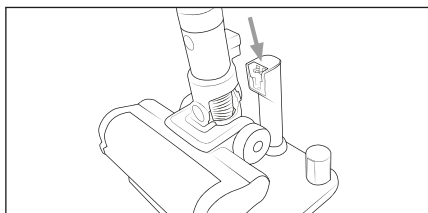

Fig. 6
- ▶ The appliance is equipped with a temperature monitor to protect the battery ①. At high ambient temperatures, the charging process may be interrupted or the appliance may switch off automatically in rare cases:
- The battery indicator ⑳ flashes at one second intervals during charging. Charging is interrupted and automatically resumed as soon as the temperature of the appliance has dropped.
- The battery indicator ⑳ flashes at half second intervals during operation. The appliance switches off automatically. Allow the appliance to cool down for about 20–30 minutes before switching it on again.
- ◆ Place the appliance on the appliance cradle ⑬ of the charging station ⑮. Make sure that the charging contacts ②② of the appliance and the charging station ⑮ are in full contact. The battery indicator ⑳ starts flashing and the charging process starts (see Fig. 6 and 7).